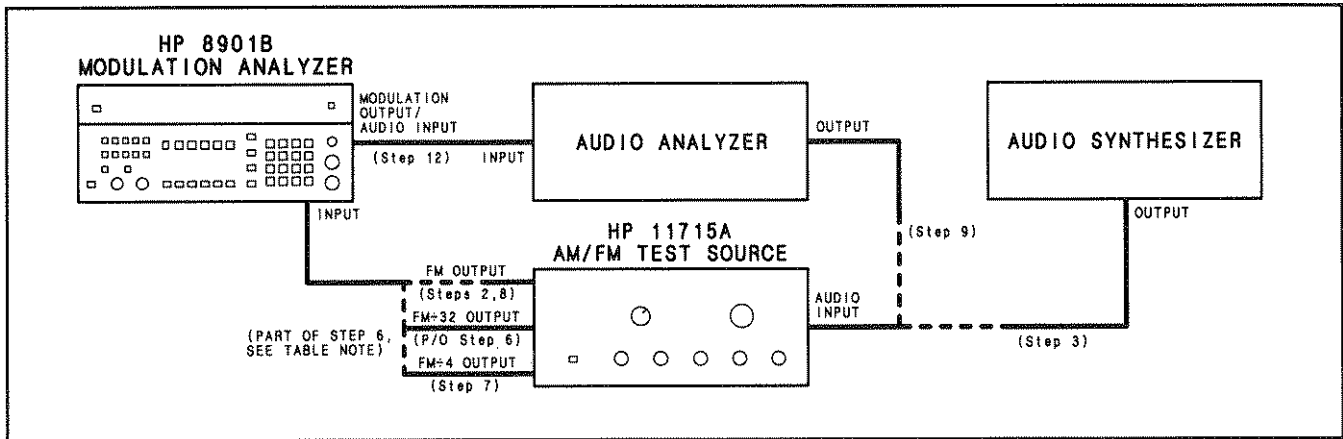

Figure 4-3. FM Performance Test Setup
2. On the AM/FM test source, set the test mode to FM. Connect its FM output to the Modulation Analyzer's INPUT. (See Figure 4-3.)
3. Set the audio synthesizer to 200 Hz at -10 dBm. Connect its output to the audio input of the AM/FM test source. (See Figure 4-3.)
* Connect the FM÷32 output of the AM/FM test source to the Modulation Analyzer's INPUT to make this measurement. (See Figure 4-3.) Press AUTOMATIC OPERATION, then MHz to retune the Measuring Receiver. If the resolution is not 0.001 rad, press Φ M again.
7. On the Modulation Analyzer, key in 3.1 SPCL to set the IF to 455 kHz. Press FM. On the AM/FM test source, connect the FM÷4 output. (See Figure 4-3.) Set the audio synthesizer frequency as shown in the following table. Set the Modulation Analyzer High Pass Filter as shown in the table. Set the audio synthesizer level to give the FM deviation shown in the table. After setting each FM deviation, press Φ M. For each setting, the Modulation Analyzer's display should read between the limits indicated in the table.
8. Connect the FM output of the AM/FM test source to the Measuring Receiver's INPUT. (See Figure 4-3.) Press AUTOMATIC OPERATION on the Modulation Analyzer.
9. Set the audio analyzer's oscillator to 1 kHz. Connect its output to the audio input of the AM/FM test source. (See Figure 4-3.)
12. Connect the audio analyzer's input to the Modulation Analyzer's MODULATION OUTPUT/AUDIO INPUT. (See Figure 4-3.) Set the audio analyzer to measure the distortion on the 1 kHz signal at the MODULATION OUTPUT/AUDIO INPUT. Set the high-pass filter on the audio analyzer to 400 Hz. The distortion should be 0.1% (-60 dB) or less.